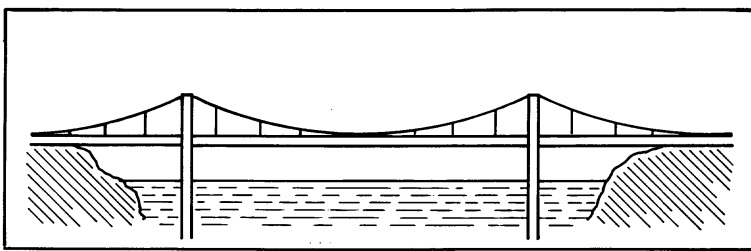

Figure 8
- 1 Make a copy of the suspension bridge shown in Figure 8. Draw arrows to show the forces acting in (a) the cables; (b) the towers; (c) the deck.